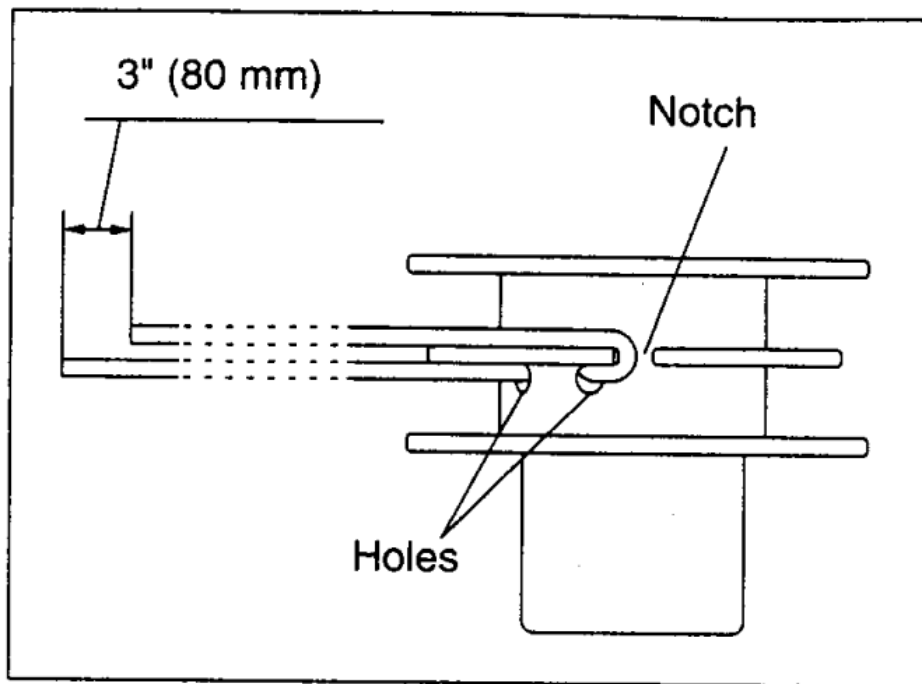

Fig. 24
2. Run the new nylon cord through the hole in the center of the spool, and pass one end of the cord through the notch into the other side of the spool. Allow one end of the cord to extend about 3" (80 mm) further than the other end (Fig. 24).